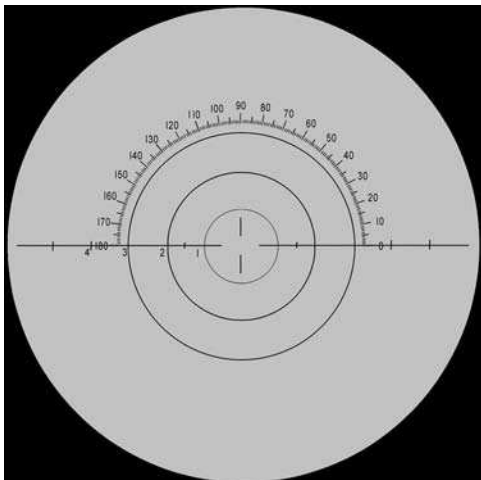

Fig. 5
3. With both eyes open, look through the eyepiece with your dominant eye. Slowly turn the eyepiece clockwise until the black reticle lines are in sharp focus. Do not go beyond that point. Fig. 5 shows the reticle lines in the eyepiece.